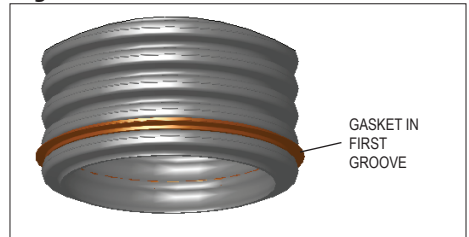
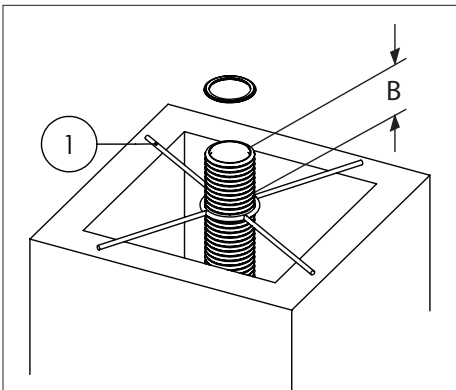

Figure 1, Mounting the Gasket
Figure 8, Required Liner Length
PP Flex pipe must always have gaskets installed on both ends of any installation. Gaskets are installed on the flex pipe, with the gasket seating inside the flex pipe grooves (Fig.1). Use soapy water to assist installation.
3. The length of the flexible liner can be determined in two ways: use a rope with a weight to measure the shaft length, add 16" (40cm) extra length for each bend. The flexible liner can be shortened with a saw or scissors by cutting in a groove. The correct length can also be determined after installing the liner in the shaft and cutting it at the top of the chimney, see **Fig.8**, dimension B.
11. At the top of the shaft, shorten the flexible liner to the required length and make sure that dimension B in **Fig.8** is between 1½ - 2½" (between 38 and 64 mm).
13. Fit the Support Bracket (see 1, **Fig.8**) over the liner and let it rest on the wall of the shaft. Mount the Gasket as detailed above (see **Fig.1**). Push the Flex Female Adapter on the liner and close the latching tabs. Allow the assembly to rest on the Support Bracket.